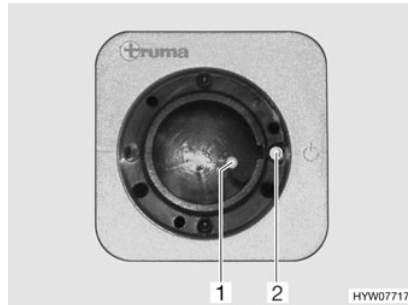
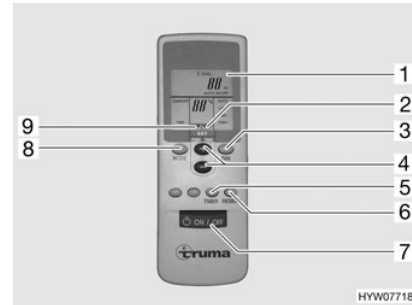

Fig. 79 Receiver
Fig. 80 Remote control
The air conditioning unit is installed in the rear garage on the right behind a flap. The remote control (Fig. 80) for the air conditioning unit and the receiver (Fig. 79) is in the kitchen area.
- Switch on the remote control with the switch (Fig. 80,7). The green indicator lamp (Fig. 79,1) indicates cooling mode.
- Set the desired operating mode with the key (Fig. 80,8).
- Set the desired fan output and room temperature with the keys (Fig. 80,3 and 4) if necessary. The arrow (Fig. 80,9) indicates the selected setting mode.
- ▷ An additional key switch (Fig. 79,2) is on the receiver, which can be used to switch the air conditioning unit off or on without remote control. If the air conditioning unit is switched on by means of this key switch, the operating mode set last on the remote control is automatically selected.
- To switch off, press the key (Fig. 80,7) on the remote control again.
- To program, switch on the air conditioning unit with the key (Fig. 80,7) on the remote control.
- Set the desired operating mode and room temperature with the keys (Fig. 80,8, 3 and 4).
- Use the key (Fig. 80,5) to select the desired function (Fig. 80,1):
- Use the keys (Fig. 80,4) to select the desired switching time (1 to 15 hours). The arrow (Fig. 80,2) flashes and indicates the setting mode.
- ▷ The key (Fig. 80,6) is used to send the settings of the remote control repeatedly to the receiver.